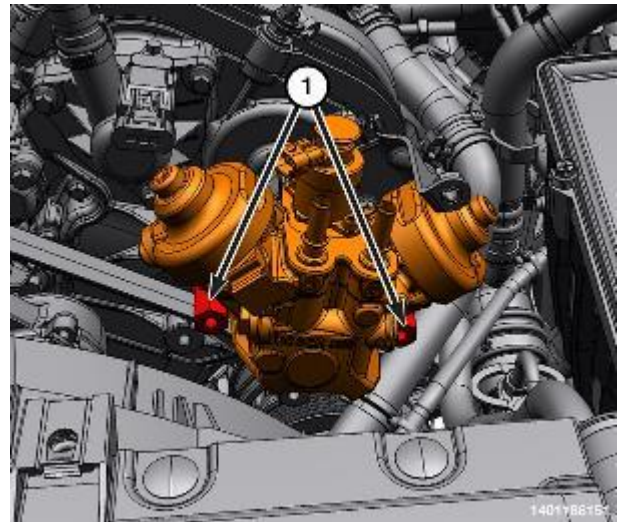

Figure 132 – Fuel Quantity Solenoid Connector and HPFP Upper Bolts
70. Remove the upper bolts (1) from the high-pressure pump (Figure 132). Using Tool, High Pressure Pump Installation VM.10345 Install the studs in the upper locations.
- 82. Tighten the bolts (1) that secure the fuel injection pump to 25 N·m (18 ft. lbs.) (Figures 132 and 133).